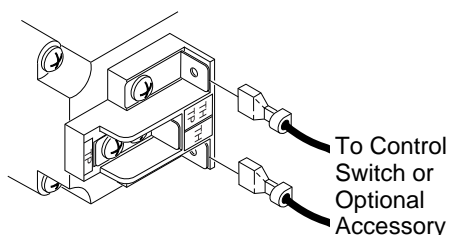

Figure 31 - Control Valve Terminals
3. Connect one terminal of the wire for the wall thermostat to the THTP terminal on the valve. Connect remaining wire terminal to the TH terminal on the valve. Make sure that the wire terminals are in the positions on the unit as pictured in Figure 31. If wires are not connected as shown the thermostat will not work.
3. Disconnect wires from THTP and TH on control valve that lead to the switch (see Figure 31, page 15). Discard switch plate, screws, and nuts.
7. Connect the wires from the receiver to the valve at TH and THTP (see Figure 31, page 15).